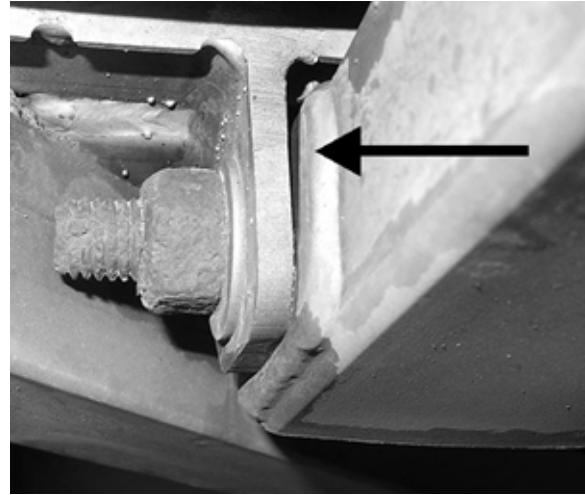

FIGURE 25: VISIBLE GAP ON TRANSVERSAL SCREW JOINT
- On the transversal screw joints (Figure 25) any visible gap between cradle support tubing and vehicle frame mounting lugs is not acceptable.